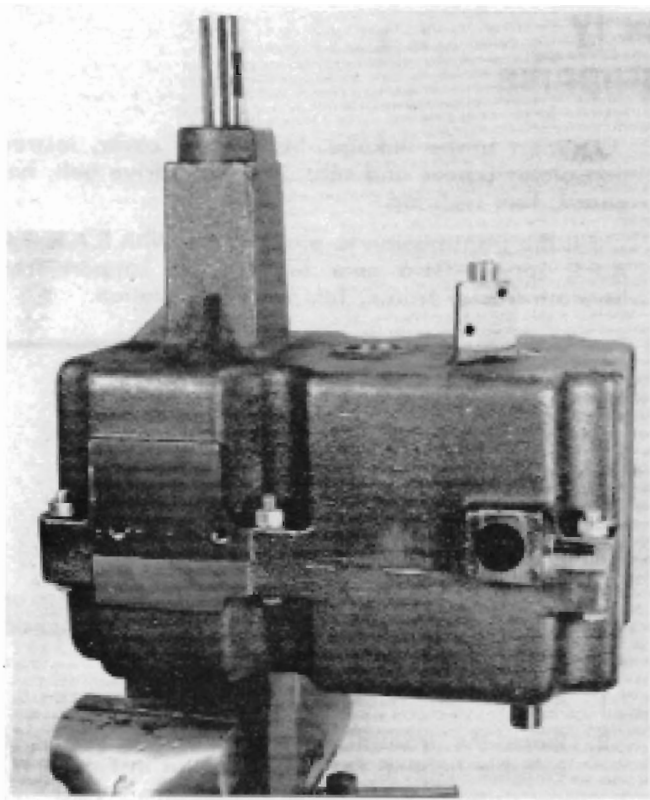
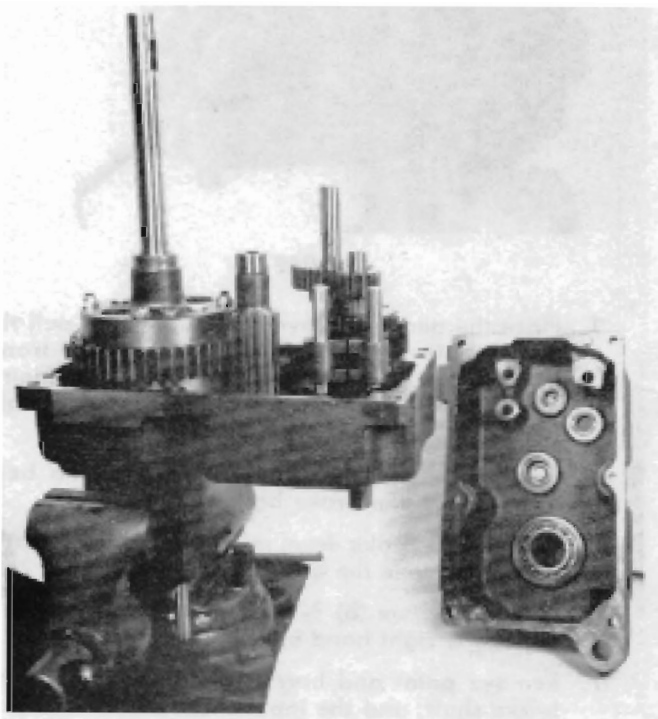

FIGURE 2
FIGURE 3
4. Remove the two (2) brake band retaining bolts and remove the brake band.
5. Remove the brake drum retaining bolt and washer, and remove the brake drum. (See Figure 2).
6. Remove the six (6) $\frac{3}{8}$ " x 16 bolts and nuts that retain the right hand and left hand cases.
8. Remove the left hand case, as shown in Figure 3.